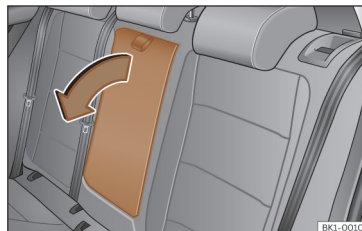

Fig. 104 Folding rear centre armrest (schematic view).
- To **lower** the armrest, pull the cord in the direction of the arrow >>> **Fig. 104**.